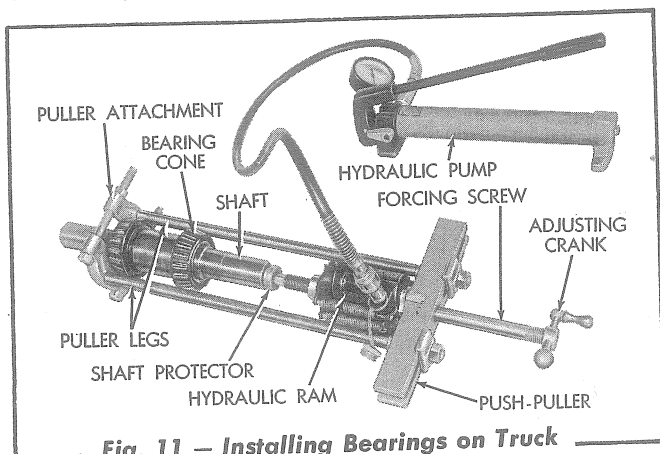

Fig. 11 — Installing Bearings on Truck Wheel Shaft
3. Press the bearings onto the truck wheel shaft until they are seated against the shoulders on the shaft (refer to Fig. 11).